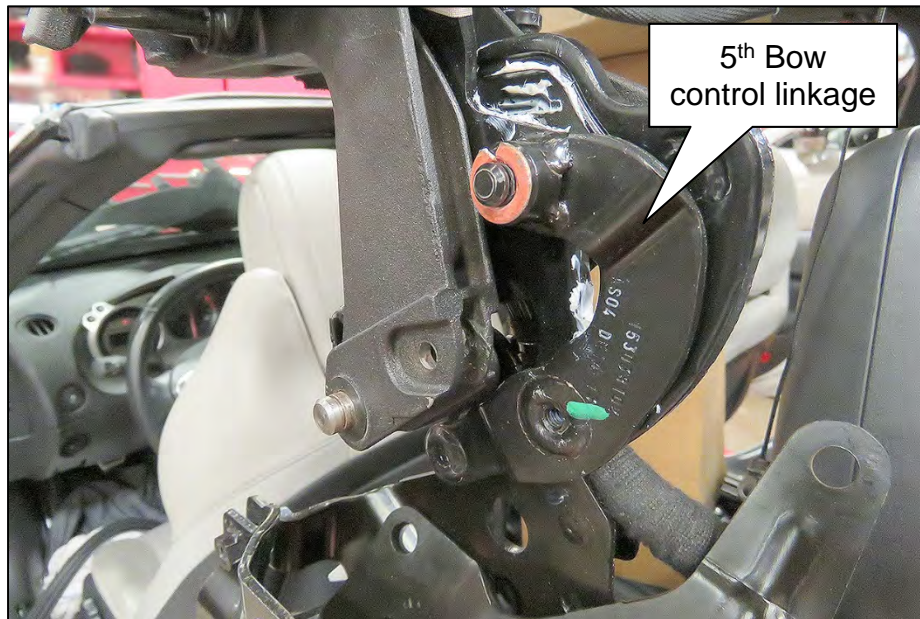
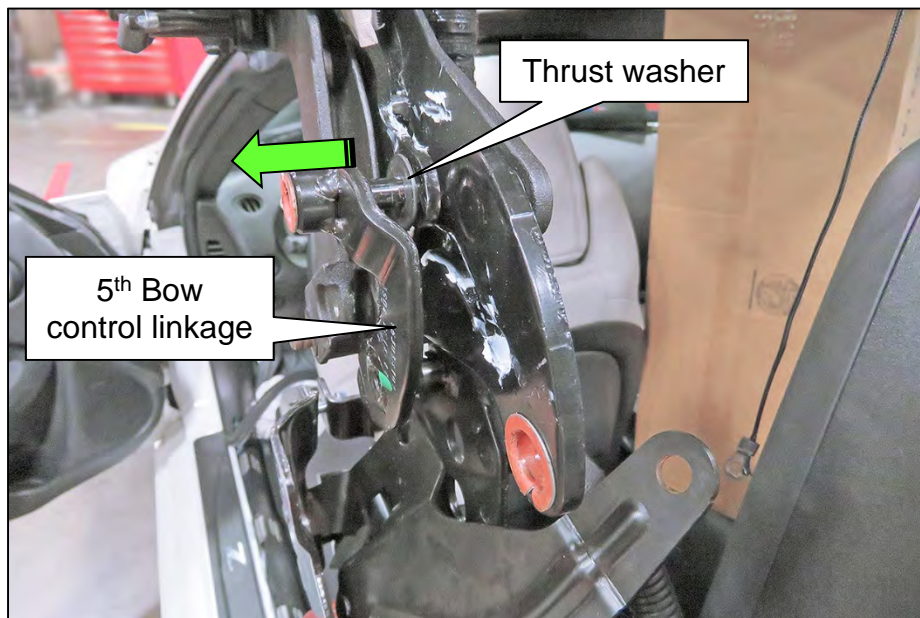

Figure 181
Figure 182
194. Remove the 5th Bow control linkage (Figure 181 and Figure 182).
- Figure 182 is a side view, as 5th Bow linkage is being removed.
IMPORTANT: Retain the thrust washer shown in Figure 182, it will be reused.